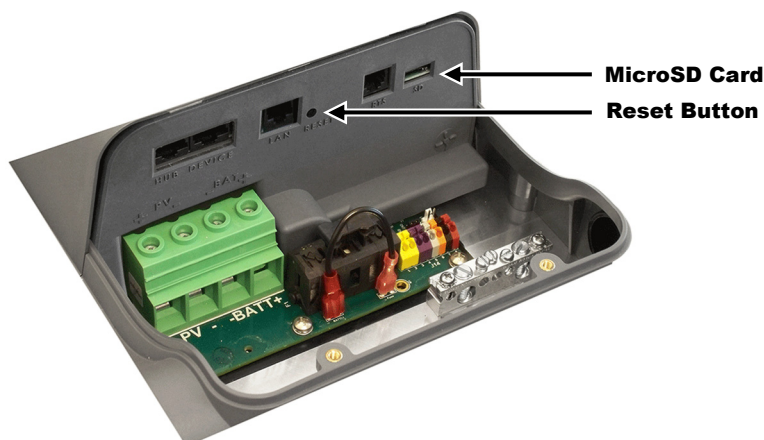

Figure 50 Location of MicroSD Card
2. If present, remove the microSD card from the FLEXmax 100. (See Figure 50.) The card can be ejected by pressing on the exposed end. It should depress slightly and then protrude with a click. Afterward it can be easily removed.
7. Press and hold the **RESET** button with a nonconductive narrow tool. (See Figure 50. The button is recessed inside the hole by several millimeters.)